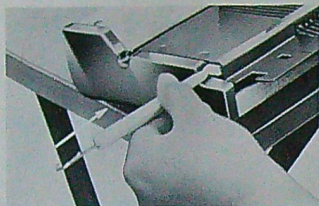

Fig. 1
- 1) Push either side of the felt bar and piece with the end of latch tool. The felt bar end then appears on the side. See Fig. 1.